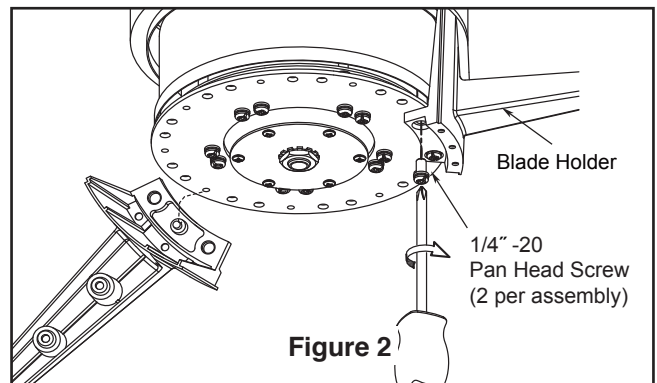

Figure 2
2. Secure the blade holders to the flywheel using the 1/4\"-20 screws, the post on the blade holder need to align the hole between the 1/4\"-20 threaded holes located on the bottom of the flywheel. (Figure 2)
- 2. Remove the three screws in the light plate assembly. Assemble the light kit assembly to the light plate assembly using the previously removed screws. (Figure 2)
- 2. Restore electrical power to the outlet box by turning the electricity on at the main fuse box. (Figure 2)